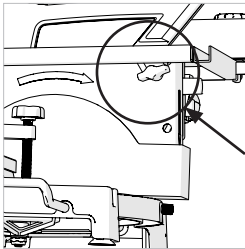

Fig. 4
- Loosen the table height adjustment screw. **(Fig.4)**